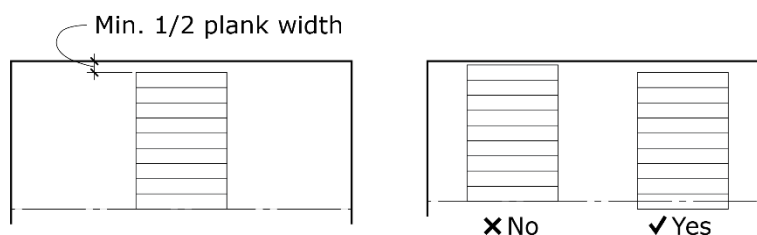

Figure 1: Determining perimeter plank width
- e. Lay one plank with its long side up against this center line in the center of the installation area. From there the installer will continue placing planks parallel to each other until reaching the wall or outer extents, and no more full width planks can be placed. This remaining balance will determine the width of the final row of planks. Avoid having planks less than 1/2 the width of the plank whenever possible. If the last row of planks will end up being less than this, shift the plank at the centerline from having its long edge against it to being centered on the line. This will widen the planks at the edges and provide better balance to the layout. See **Figure 1** below.